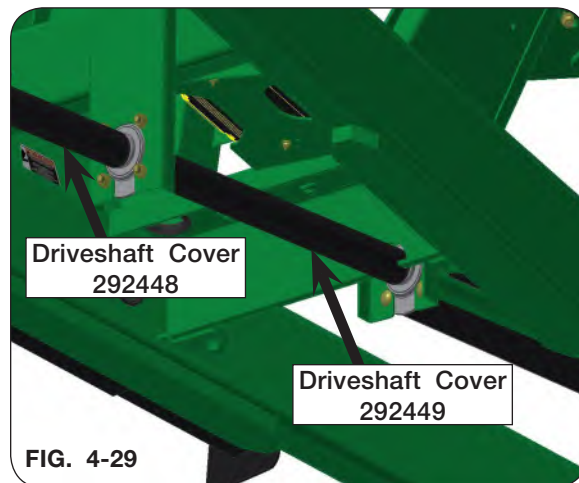

FIG. 4-29
9. When installing new bearings onto new driveshaft (9008138), assemble new 20 1/2" PVC driveshaft cover (292448) between bearings near the gearbox, and new 33 1/2" PVC driveshaft cover (292449) between bearings behind the hitch driveline cover. (Fig. 4-29)
10. Slide the hitch end of the driveshaft, bearing and hitch driveline cover into the bearing near hitch of the cart. (Fig. 4-29)